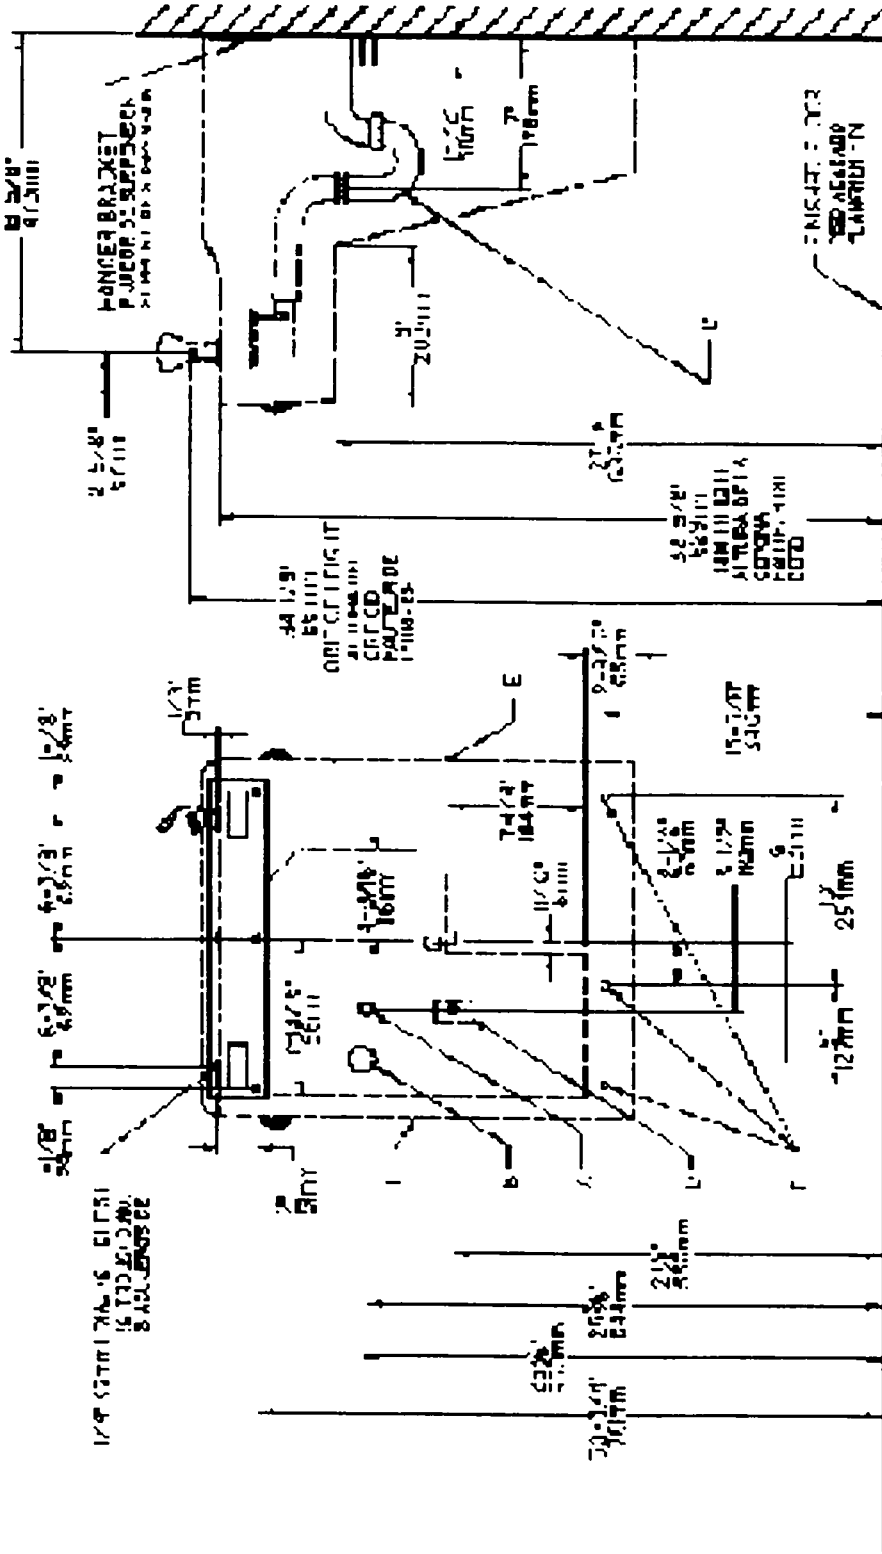

FIG. 2
- 1) Remove hanger bracket fastened to back of cooler by removing one (1) screw.
- 2) Mount the hanger bracket and trap as shown in Figure 2.
- Anchor hanger securely to wall using all six (6) 1/4 in. dia. mounting holes.